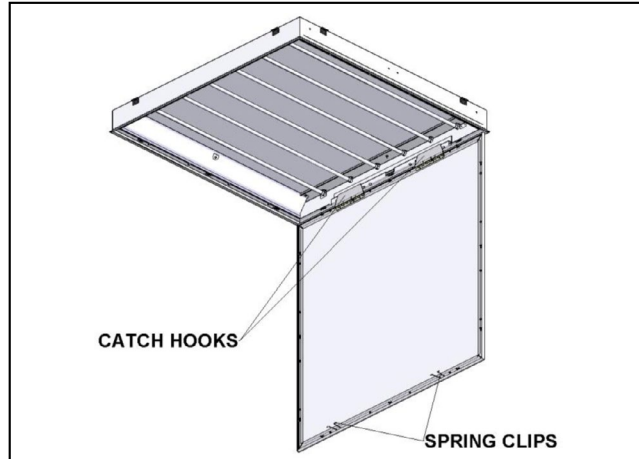

FIGURE 4: Door Attachment
- CSMRI24 and CSMRI44: With door hanging vertically, grasp sides of door frame and lift vertically to disengage the door catch hooks from the housing. The door is now detached from the lightbox. See Figure 4.